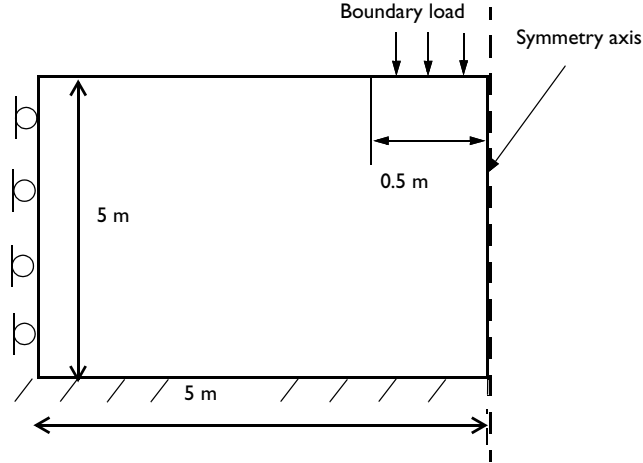

Figure 1: Dimensions, boundary conditions, and pressure load for the unsaturated soil.
- A boundary load is applied on top of the soil layer to model the weight of the footing, see Figure 1.